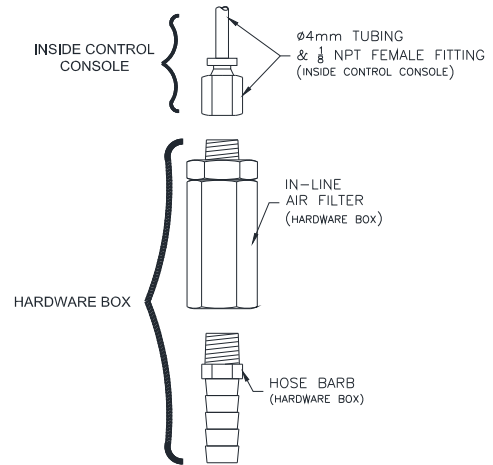

Fig. 6 – Air Connection
- 14) Inside the control console locate the (2) Ø4mm air lines. One will lead to the pads, the other air line will have a 1/8 NPT female fitting to connect the inline air filter and hose barb (from the hardware box) to, Fig. 6.